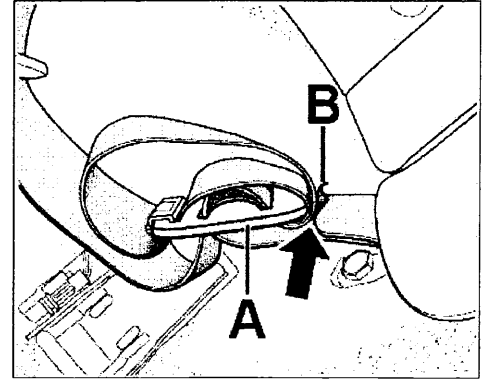

Figure 13
- 12.8** If necessary, move the belt strap holder (Figure 13, Item A) down again as far as the upper edge (Figure 13, Arrow) of the data sticker (Figure 13, Item B).